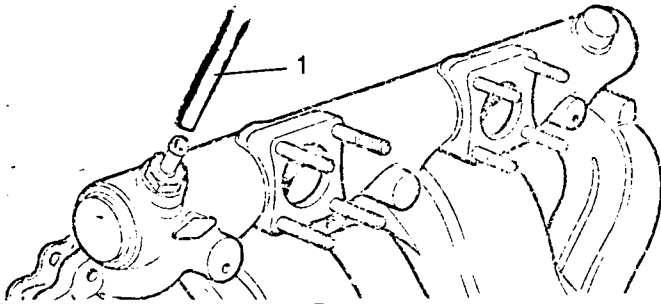

Fig B4.21
- (8) Refer to Fig B4.21. Fit the servo hose (1) to the manifold pipe.